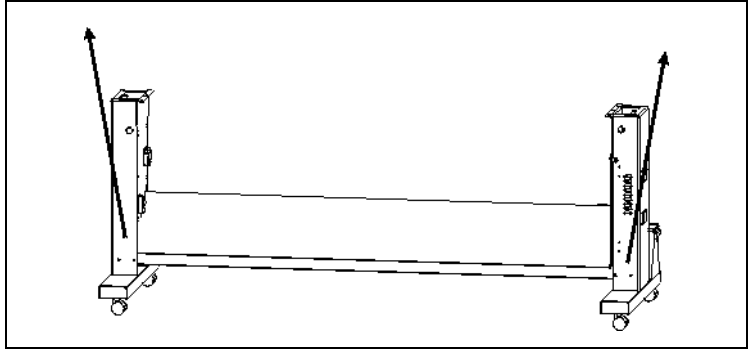

Fig. 1-2. Bias the stand legs outward as shown (angle exaggerated for clarity)
13. Bias the stand legs outward at the top, then tighten the screws firmly (see Fig. 1-2) but not all the way.